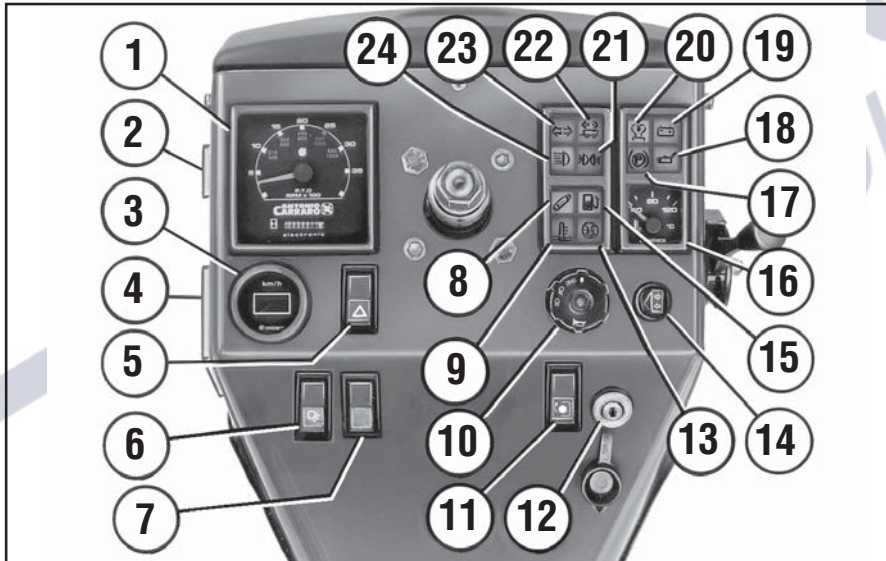

Fig. 24
- insert the key in the starter and turn it to position "1". At this point only the «insufficient oil pressure» (18 Fig. 24), «insufficient battery recharge» (19 Fig. 24) indicator lights should come on.
- turn the key to position "2" while pressing it; the "preheater on" indicator light should come on (20 Fig. 24);